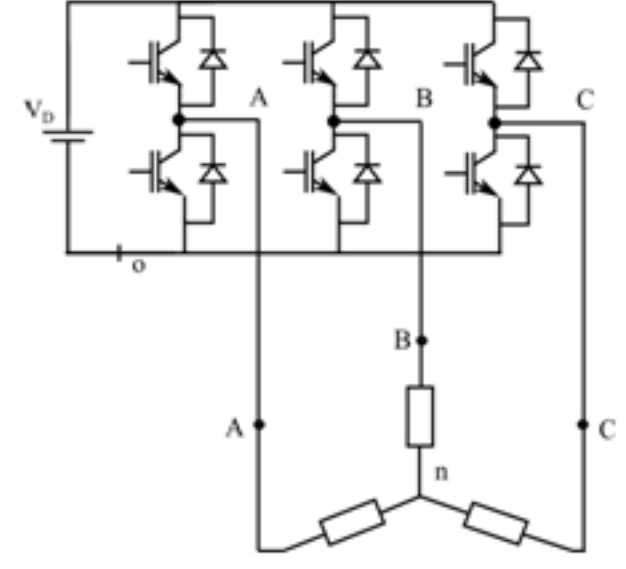

Figure 1
2) A Voltage Source Converter (VSC) (shown in Fig. 1) with $V_D = 600V$ feeds a series R-L load of value $(5+j3)$ ohm/phase. What is the fundamental maximum rms load phase voltage possible if third harmonic component of magnitude $1/6^{th}$ of fundamental, is added to the reference waveform? **2 points**